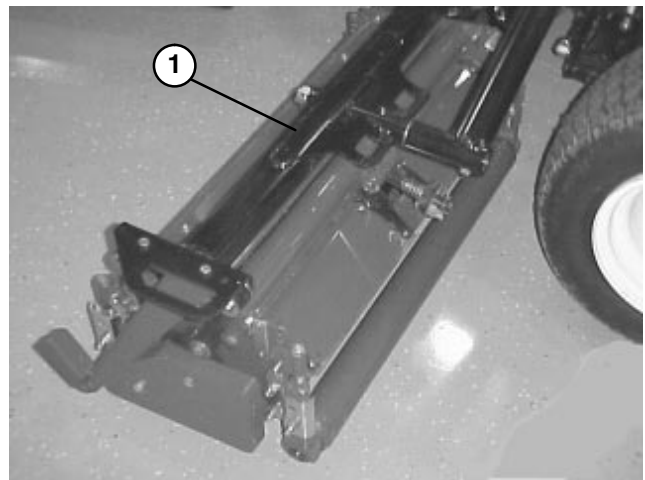
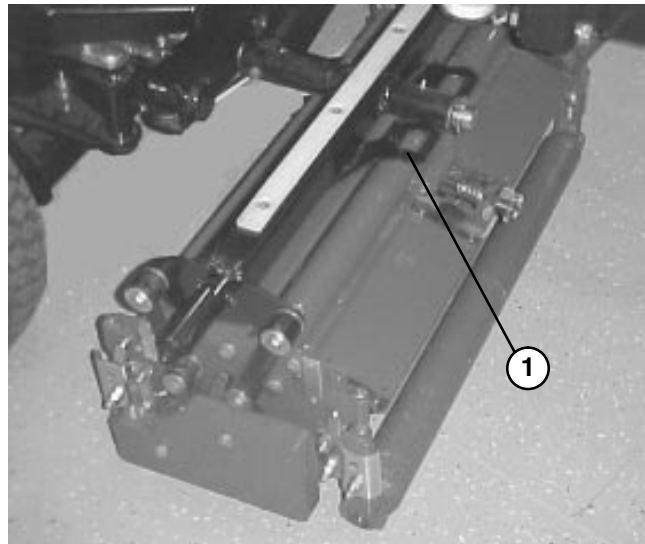
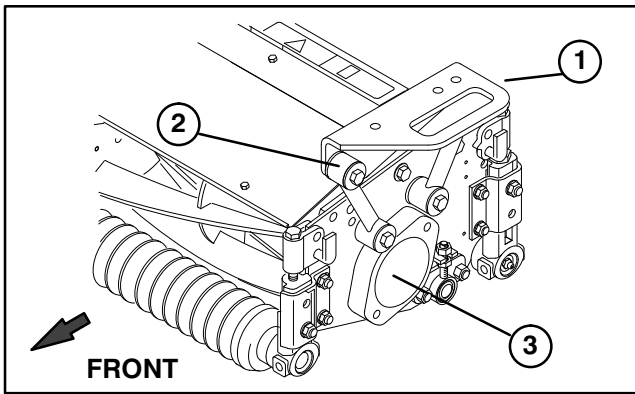

Figure 15
Figure 16
Figure 17
MOUNT CARRIER FRAMES TO CUTTING UNITS (Fig. 15 – 17)
2. Position a front carrier frame (Fig. 15) onto each front cutting unit. Align mounting holes with mounting links as shown in figure 17.
3. Position rear carrier frame (Fig. 16) onto rear cutting unit, aligning mounting holes with mounting links as shown in figure 17.
4. Secure each mounting link to carrier frame with a 3/8–16 x 2–1/4" lg capscrew, (2) flatwashers and a locknut, as shown in figure 17. Position a washer on each side of link when mounting. Torque to 31 ft–lb.
- Remove shipping plug from bearing housings on remaining cutting units (Fig. 17).